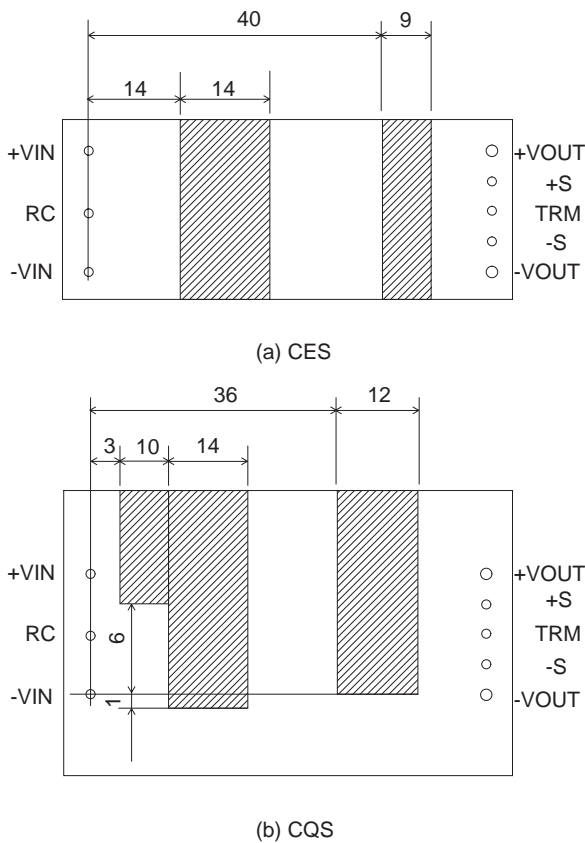

Fig.6.1 Prohibition area of pattern layout (top view)
- Avoid placing pattern layout in hatched area in Fig.6.1 to insulate between pattern and power supply.